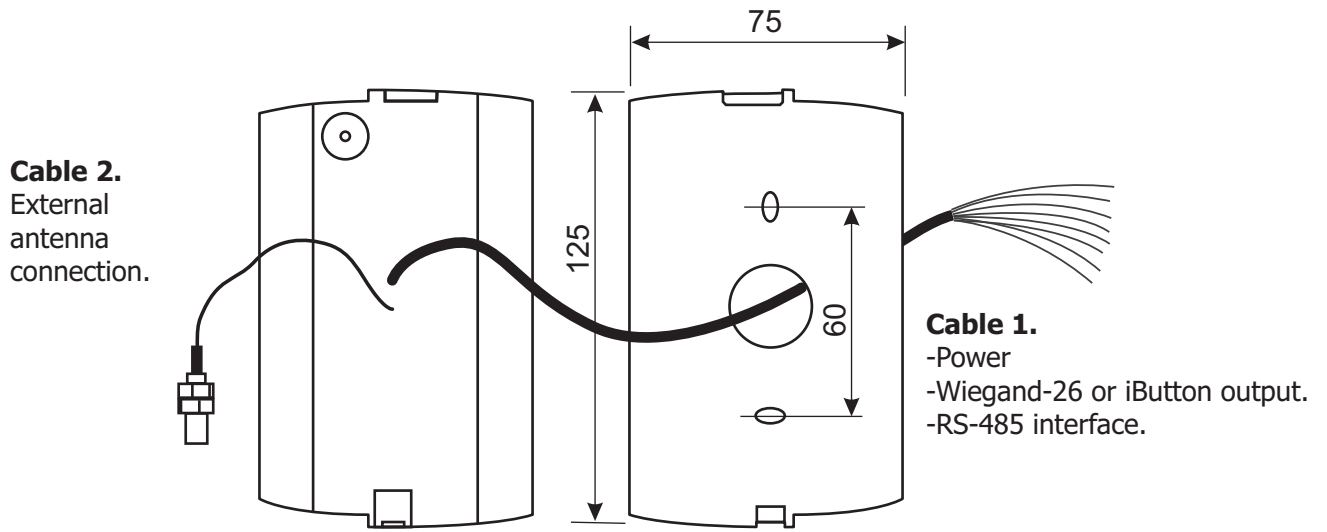

Fig.1
1. Mark and drill the mounting holes of the same size as the holes in the reader casing (see Figure 1).